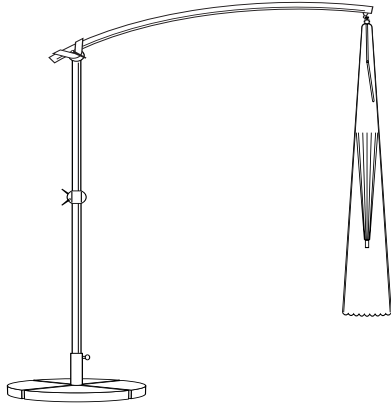
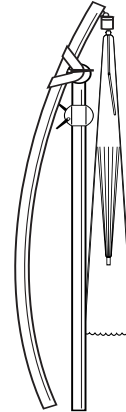

fig.11
fig. 12
1. To close sunshade, loosen locking lever and bring to horizontal position. If the sunshade is to remain hanging from arm support (fig. 11) then only loosen lever with one complete revolution. Do not pull locking lever down when bolt is still tightened, always loosen it first. To close sunshade hold onto runner with one hand and pull lever down with other hand. It will remain engaged on ball joint but will not be rigid. The frame may also be in folded position while sunshade is engaged to ball joint & socket (fig. 12).